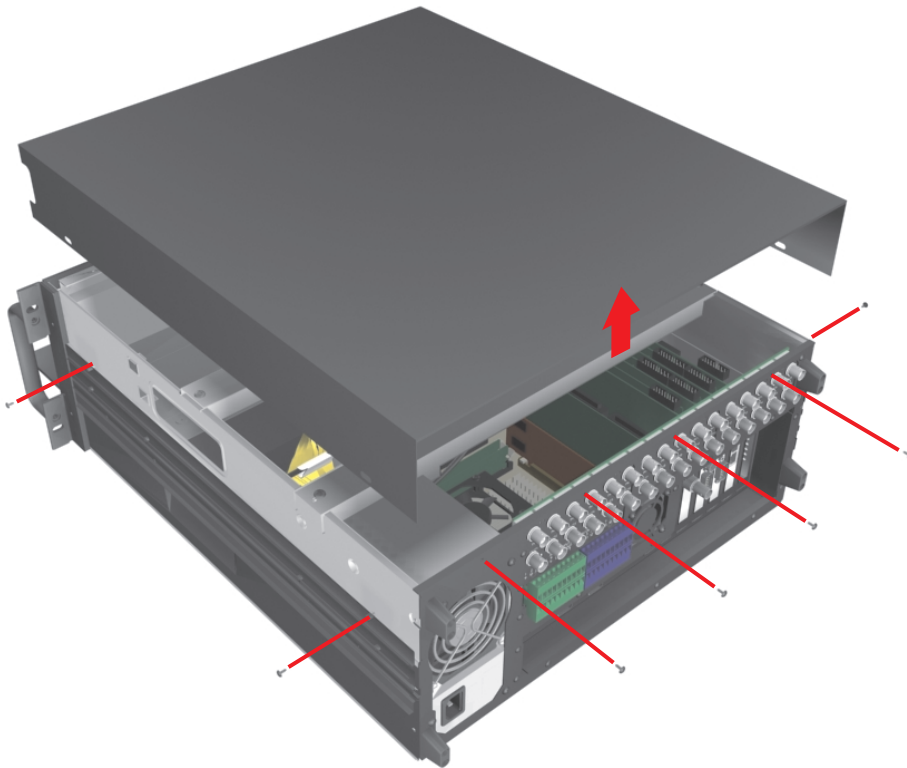

Figure 5. Removing Chassis Cover
- Remove the two top-most screws on the left and right side panels of the DX8000. Refer to Figure 5.
- Remove the four silver screws fastening the cover to the rear of the unit. These screws are the ones closest to the top of the unit. Refer to Figure 5.